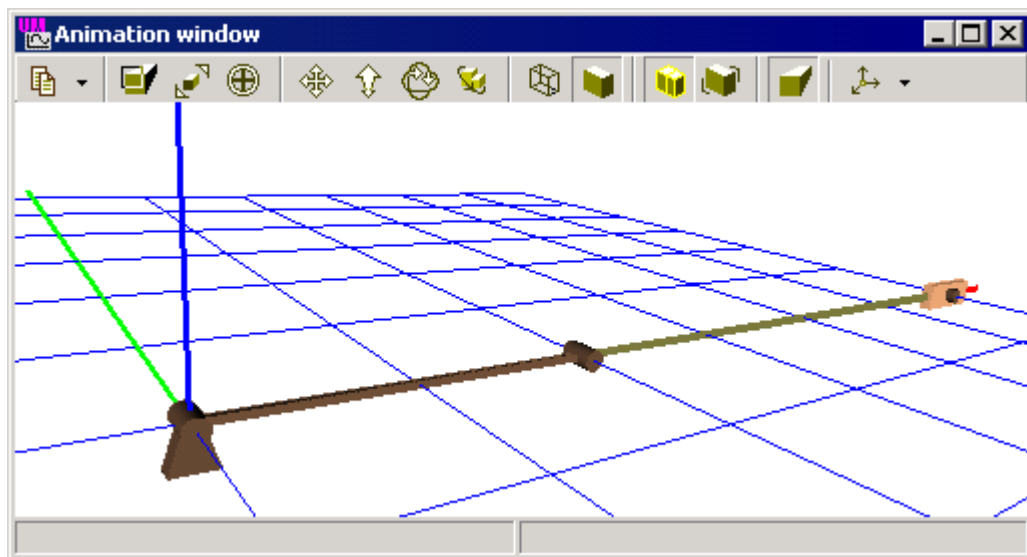

Figure 1.24.
5. Make sure that the **Autocalculation of constraint equations** mode is turned on (the  button should be pressed), otherwise press this button. Then calculate the initial conditions by clicking the  button. Animation window shows the current position of the mechanism, Figure 1.24.